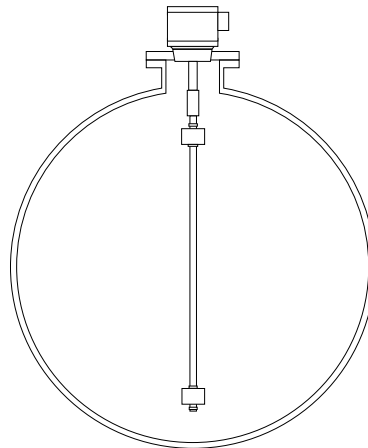

Figure 1. High/Low Level Sensor (Installed)
5. The High/Low Level Sensor is installed by lowering it into the tank and by threading it into the 2-inch NPT tank opening or riser (see Figure 1 on page 3). Tighten the sensor to prevent leakage.